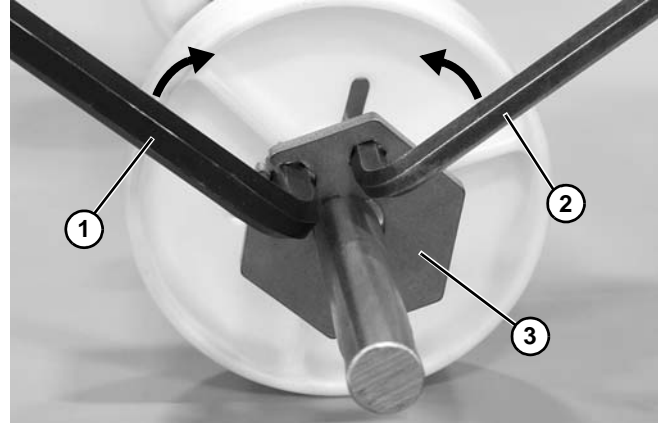

Figure 129
- a. Insert an 8 mm (**Figure 129, item 1**) and 6 mm (**Figure 129, item 2**) hex wrench into the retainer plate.
- b. Move wrenches toward each other to open the retainer plate (**Figure 129, item 3**) and install onto the shaft. Position retainer plate where needed.